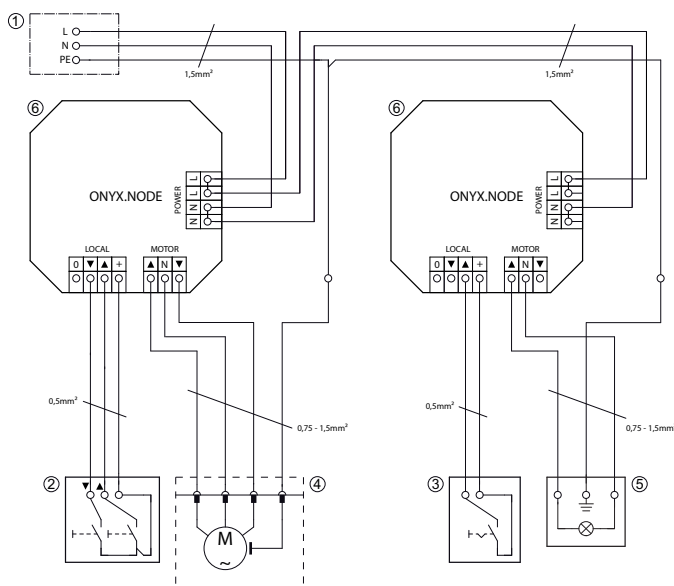

Fig. 2: Wiring diagram for Venetian blind, roller shutter and awning motor, lighting
2. Connect the stripped cables without end sleeves, as shown in Fig. 2.